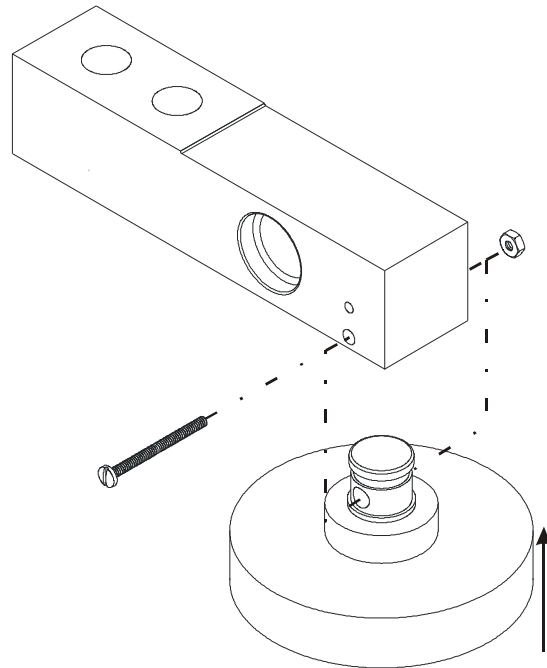

FIG. 15 INSERTING THE LEVELING FOOT INTO THE LOAD SENSOR
- Step 2. With the scale raised and securely blocked, insert the leveling foot into the load sensor. Make sure the through hole in the foot is aligned with the bottom through hole on the load sensor. (See Fig. 15)